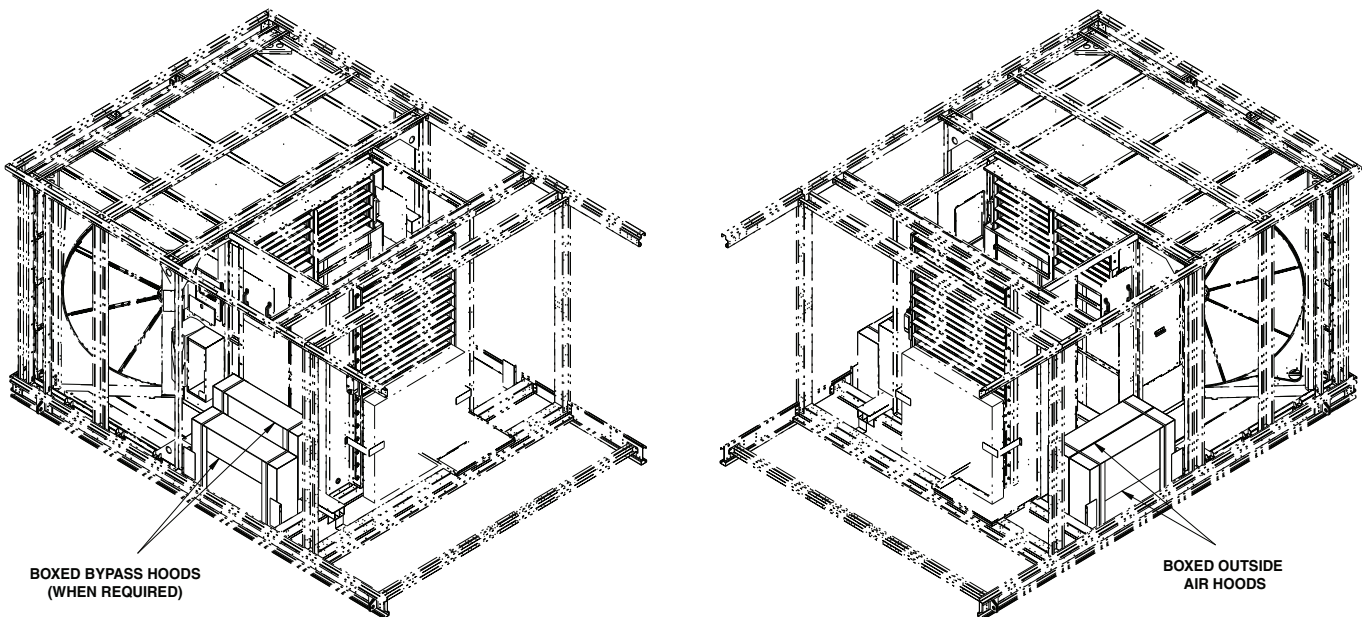

Fig. 41 — Boxed Packaging: Bypass Hoods (Left); Outside Air Hoods (Right)
1. Remove boxes from unit. See Fig. 41 for location.
1. Remove boxes from unit. See Fig. 41.